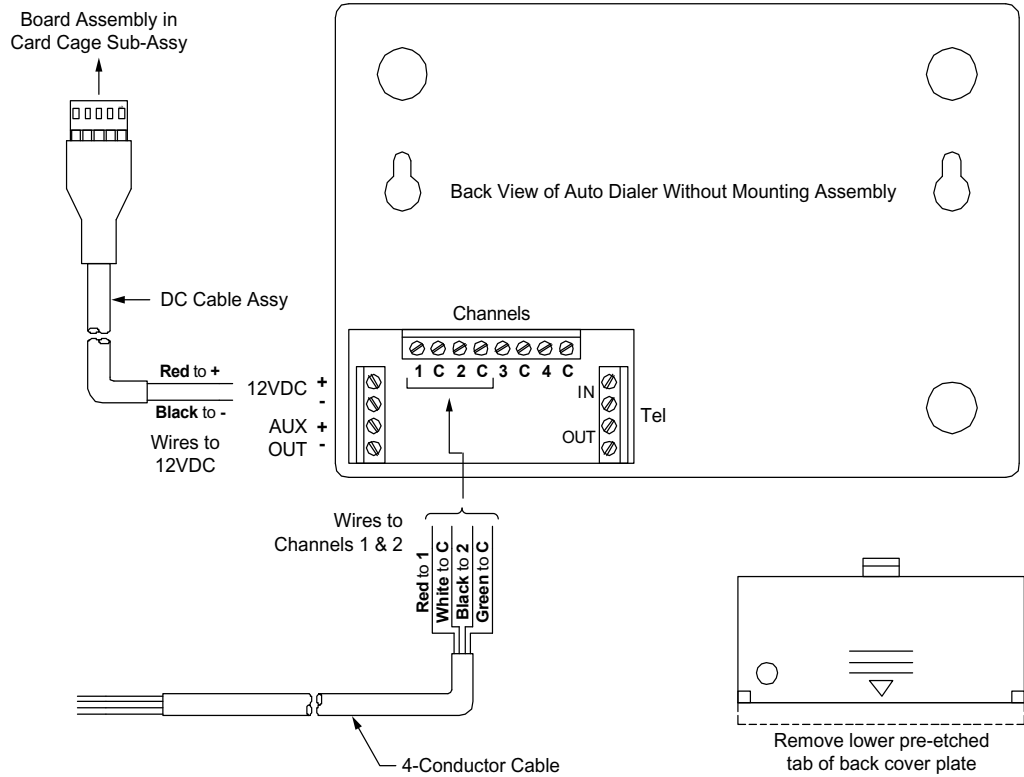

Figure 3: Connecting cables to the rear of the dialer unit.
channel 1 and 2 terminal screws as shown in **Figure 3**.
- 5) Connect the wires from the DC cable to the 12 VDC “+” and “-” terminal screws at the rear of the dialer unit. Attach the red wire to the “+” terminal and the black wire to the “-” terminal as shown in figure 3.